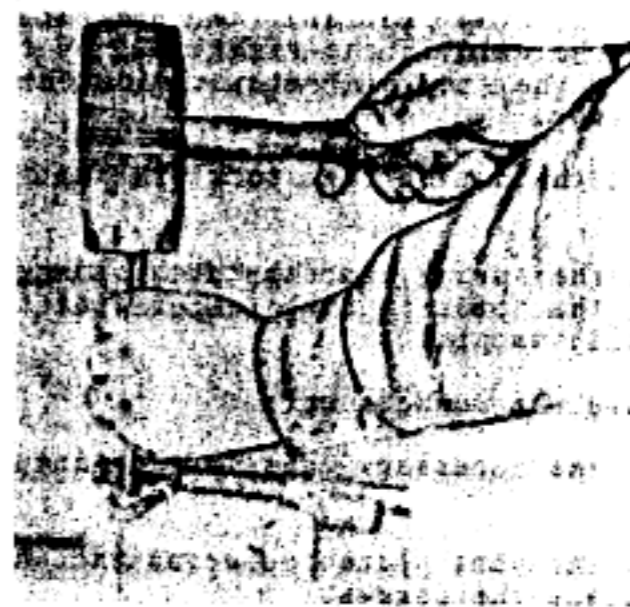

Figure 86. Removing the stud from the front sight base.
4. Remove the front sight stud from the front sight base. Place the muzzle of the rifle on a table or wooden stand and knock out the front sight stud using a punch or wooden rod (fig. 86).